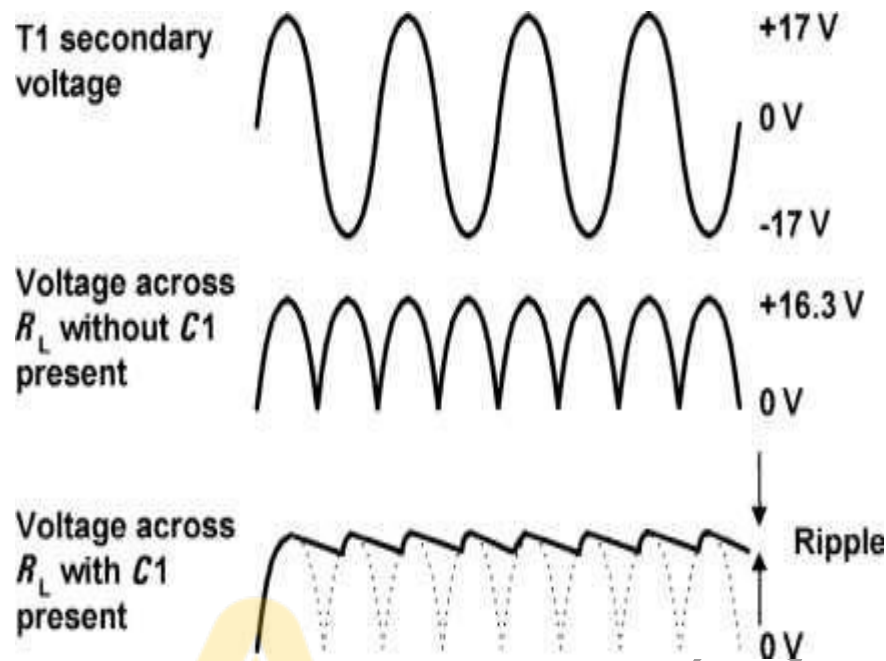

Figure 1.15 Waveforms for the bridge rectifier
- The secondary and rectified output waveforms for the bridge rectifier are shown in Fig. 1.15.